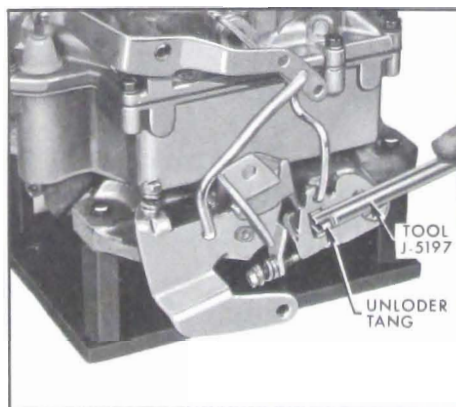

Figure 3-62—Adjusting Choke Unloader
4. If choke valve clearance is not correct, bend unloader tang as required to obtain specified clearance using Tool J-5197. See Figure 3-62.